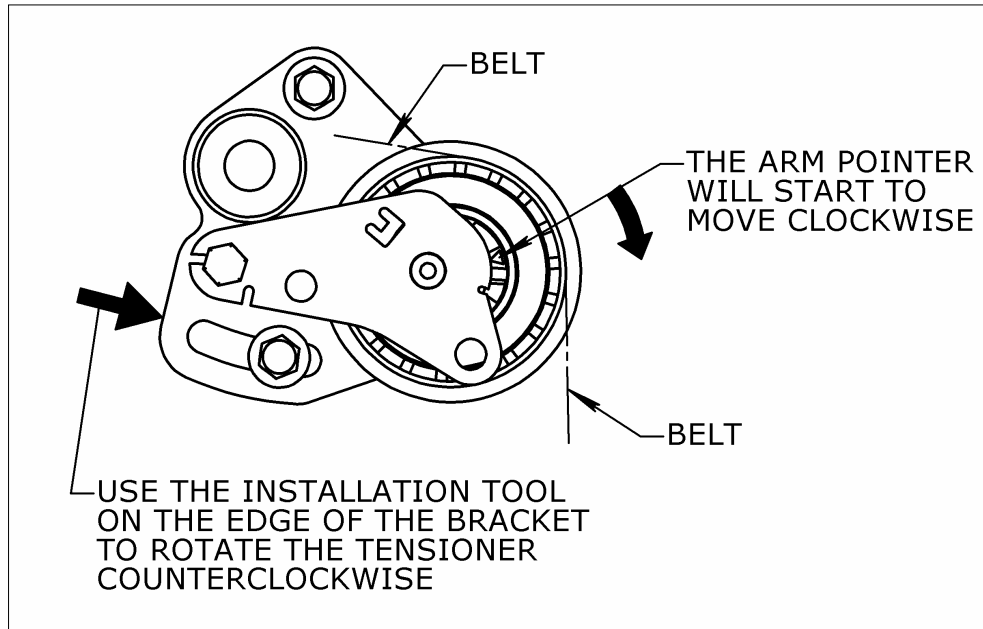

Figure 4: Tensioner Installation Direction
8. Fit the tensioner installation tool per Fiat's recommendation, and rotate the tensioner assembly COUNTERCLOCKWISE against the belt and the indicator mark on the arm will eventually start to move CLOCKWISE (Figure 4).